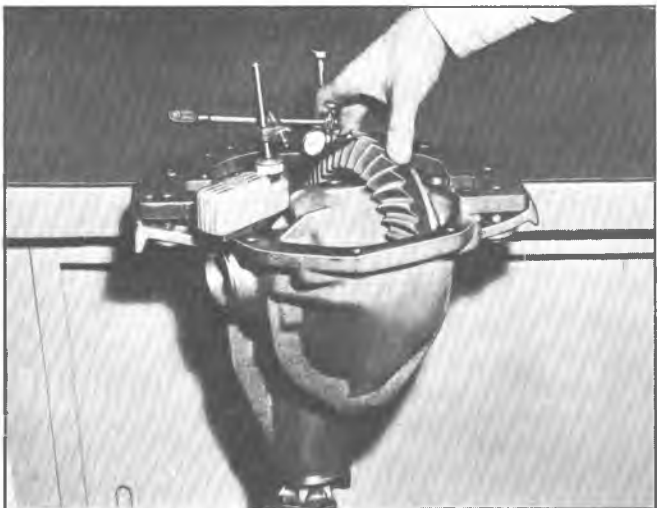

Fig. 12C—Checking Backlash
17. Mount a dial indicator on the carrier and check backlash between the ring gear and pinion, as shown in Figure 12C. Backlash should be within the range of .003" to .010" with a reading of .005" to